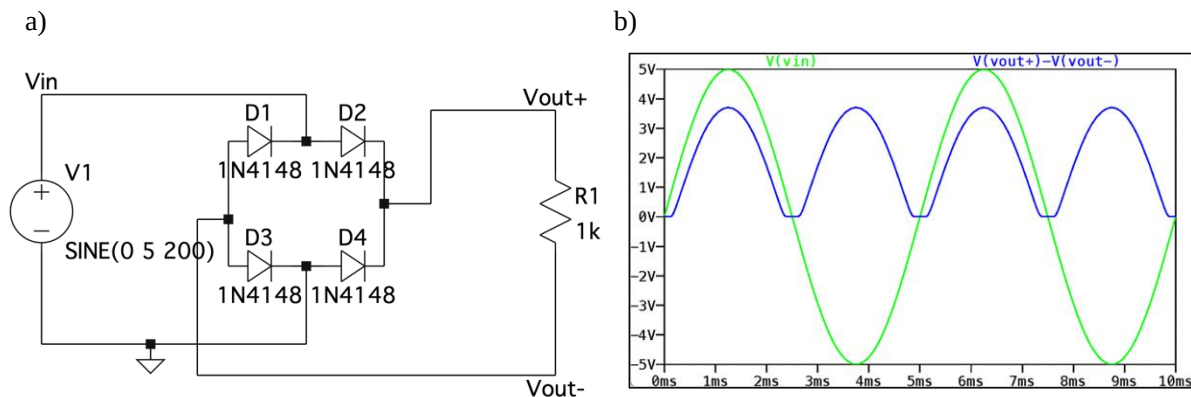

Figure 7.4: A full-bridge rectifier circuit (a) and its resulting input and output signals (b).
A full-wave (also called full-bridge) rectifier uses four diodes so that both halves of a sinusoidal input are routed to the load with the same polarity, producing a positive output for each half of the input. Because two diodes conduct in series on each half-cycle, the load voltage is reduced by about twice the diode forward drop. See Figure 7.4 for the schematic and waveforms.
- Rebuild the circuit in Figure 7.4 (a) in LTspice and plot the input and output voltages. Use the 1N4148 diode and a sinusoidal input voltage with 0 V offset, 5 V amplitude, and 200 Hz frequency. When plotting the output voltage, you must plot the difference between the two nodes of the load, just like in Figure 7.4 (b). Use .tran 10m for simulation. Take screenshots of the schematic and voltage waveforms.